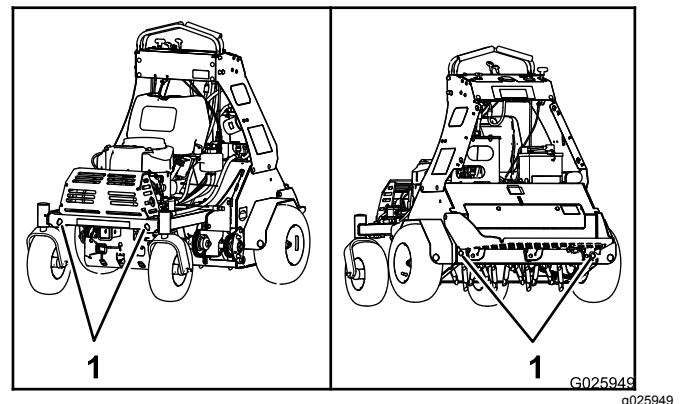

Figure 24
7. Use the tie-down points on the machine to securely bind the machine to the trailer or truck with straps, chains, cable, or ropes (Figure 24).